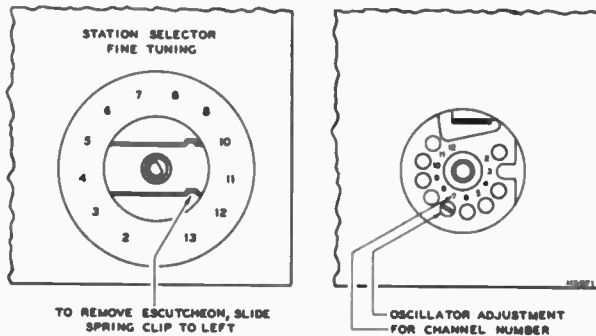

Figure 4—R-F Oscillator Adjustments
**CHECK OF R-F OSCILLATOR ADJUSTMENTS.**—Tune in all available stations to see if the receiver r-f oscillator is adjusted to the proper frequency on all channels. If adjustments are required, these should be made by the method outlined in the alignment procedure. The adjustments for channels 2 through 12 are available from the front of the cabinet by removing the station selector escutcheon as shown in Figure 4. Adjustment of channel 13 is on top of the chassis.